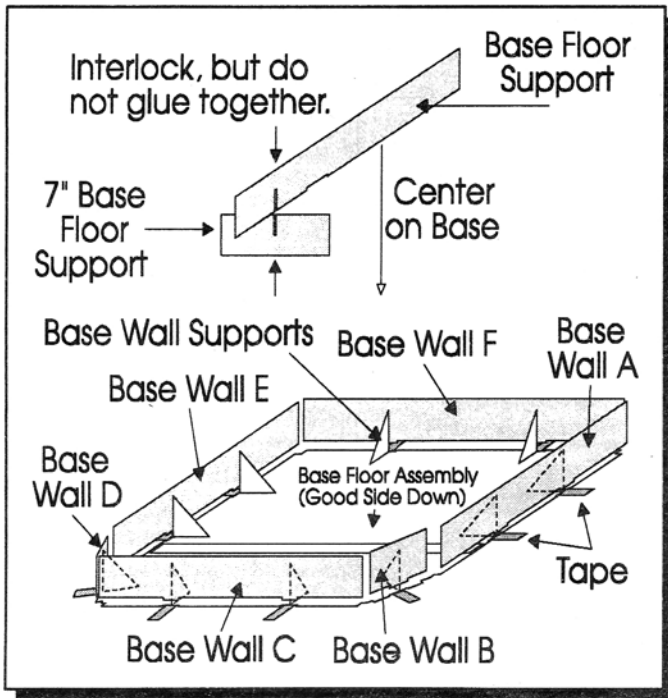

Figure 6
3. Assemble the Base upside down with a piece of tape, approximately 3" long, over each of the Base Floor notches. Tape and glue the Base Wall and Base Floor Supports in place. The Base Floor Supports need to be centered between the Base Walls A and E. Later the cornerpost assemblies D/E and E/F will protrude through the Base Floor and glue the the ends of the 7" Base Floor Support/Anchor. See Figure 6.